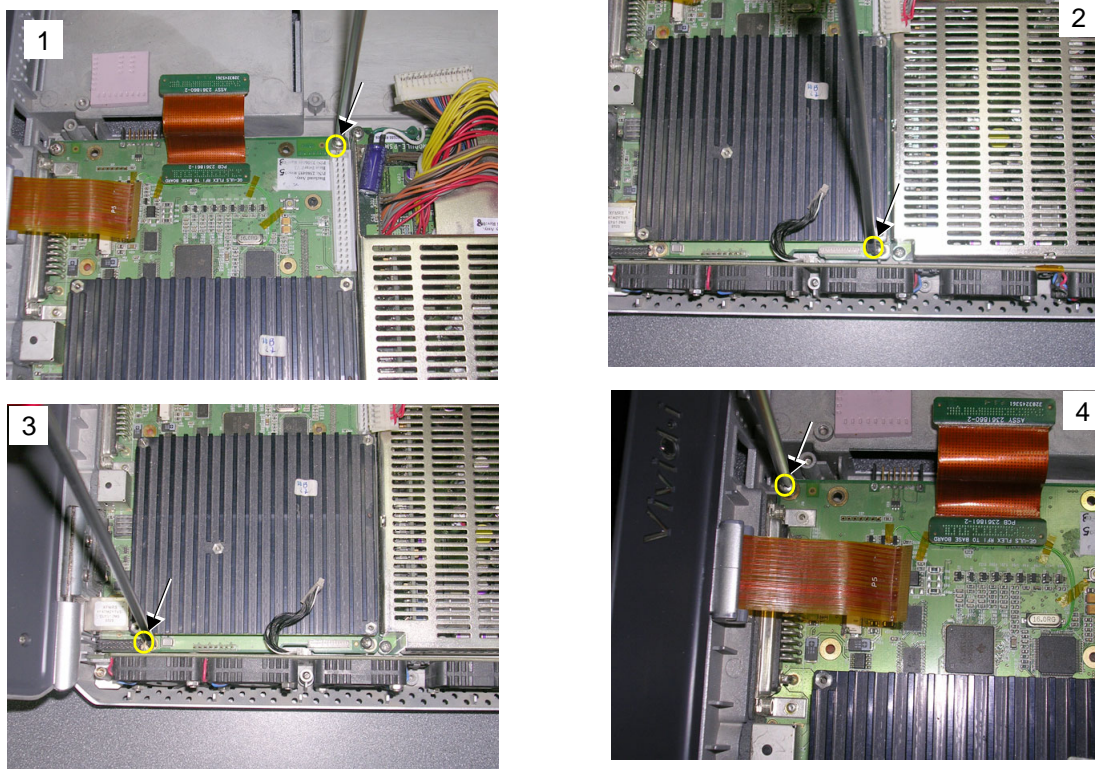

Figure 8-47 Removing the Screws from the BEP
- 2) Check that the BEP is seated correctly then return and fasten the four screws (previously removed) to secure the BEP to the Bottom Assembly - refer to Figure 8-47 on page 8-40.